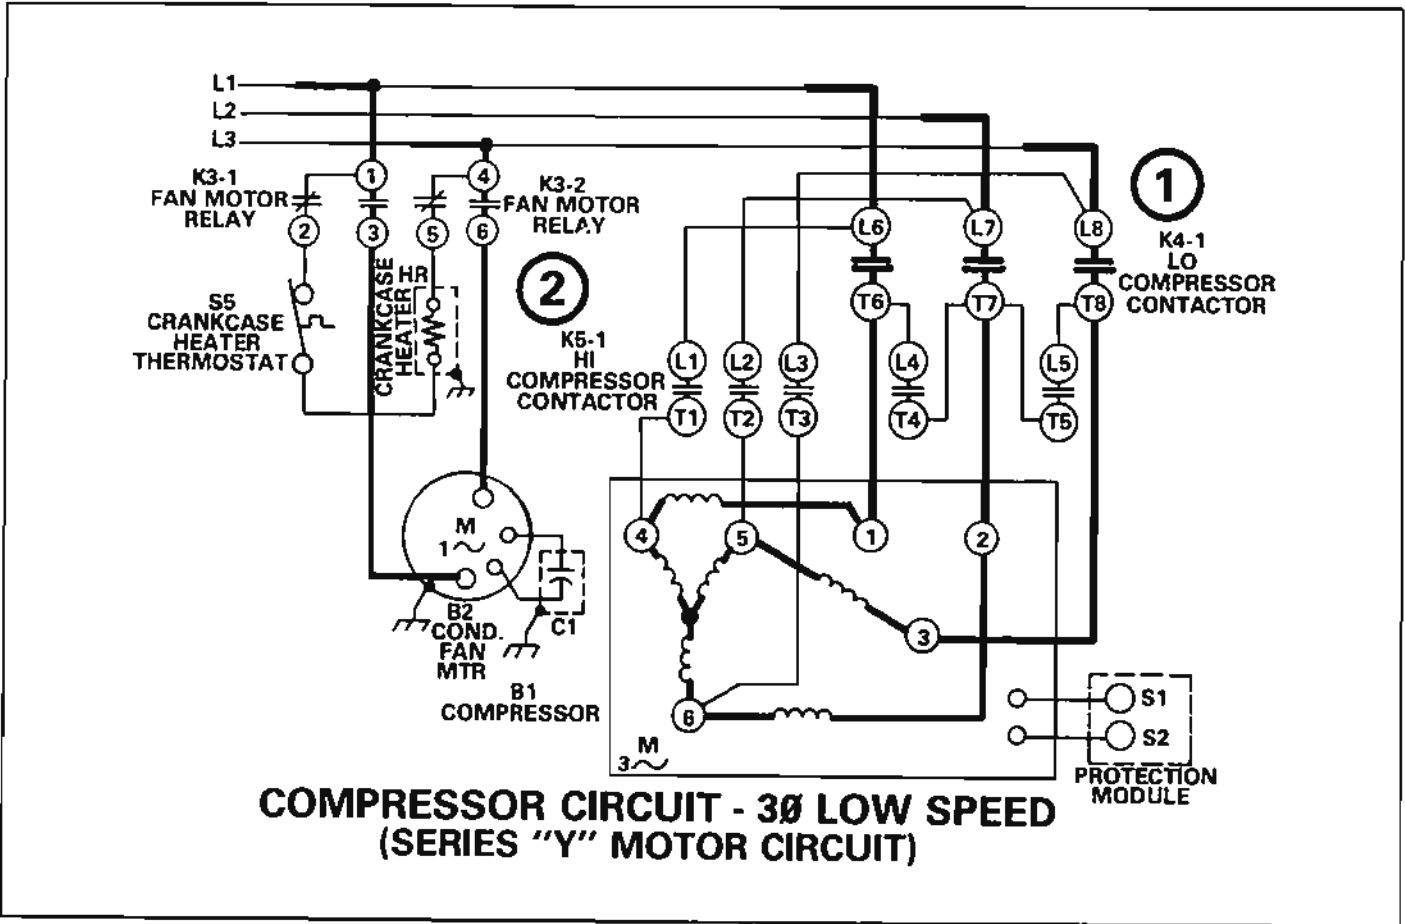

FIGURE 20
- A - Compressor Circuit - Low Speed (Figure 20)
### A - Compressor Circuit - Low Speed (Figure 20)